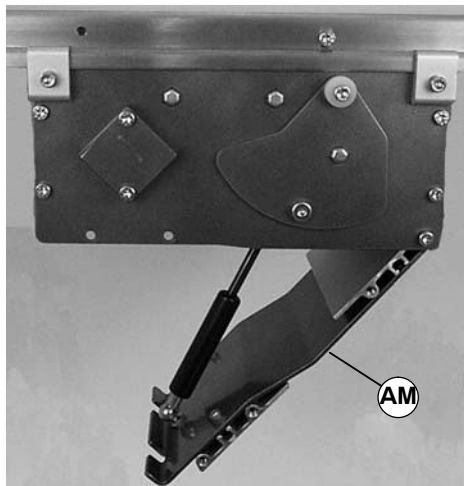

Figure 39
14. Close tension door (AM of Figure 39).